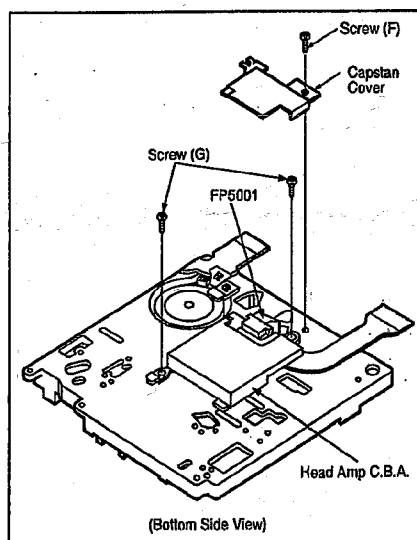

Fig. M6
| 4. Head Amp C.B.A.                | Fig. M6  | Unscrew screw (F) and remove the Capstan Cover.Disconnect FP5001.Unscrew 2 screws (G) and remove the Head Amp C.B.A.   |